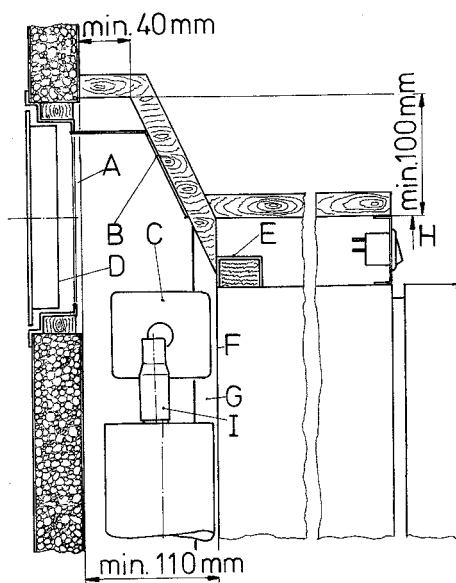
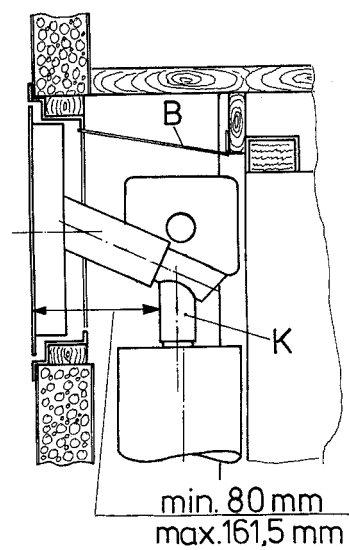

Fig. 6a
Fig. 6b
condenser (C) of the refrigeration unit, at least as shown in fig. 6b but preferably as shown in fig. 6a.